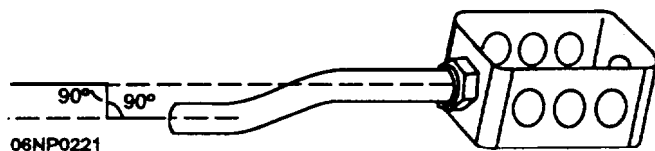

Figure 5-45.—Box offset.
**OFFSET BENDS.**—An offset bend is two equal bends in opposite directions. It is used to avoid contacting a part of the structure or to bring the conduit out from the structure to match a knockout in a box or panel. The angle of the bend in an offset depends on several things; how much offset is needed, how much room there is where the offset is going to be placed, and the type of obstacle you are avoiding. Figure 5-45 shows a box offset into a handy box. There is no way to mark the conduit for a box offset. The amount of bend and the distance between bends are estimated. The key to making good box offsets is practice.